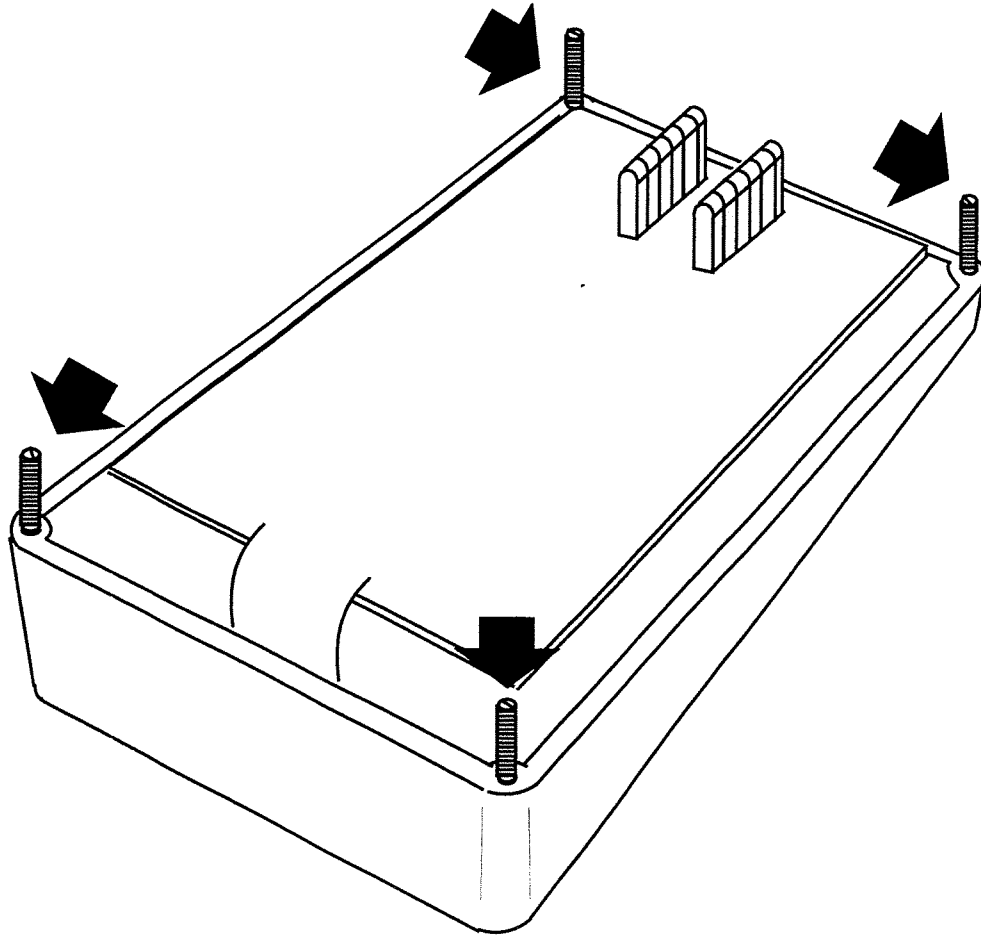

Figure 2.
2. Thread the four slotted setscrews provided into the plastic housing of the remote unit. Make sure the slotted end of each setscrew is out. Screw these in by hand, taking care not to overtighten. Refer to Figure 2.